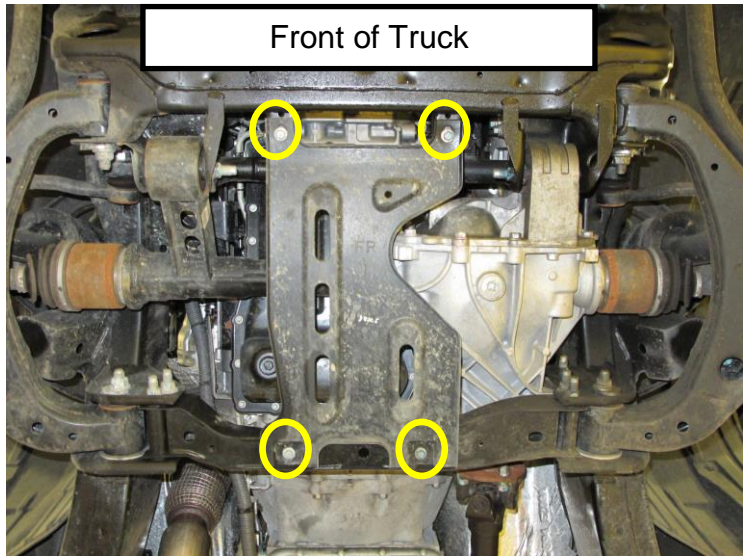

Figure 4
3. Remove engine under cover (Figure 4).
- Remove the (4) engine under cover bolts.